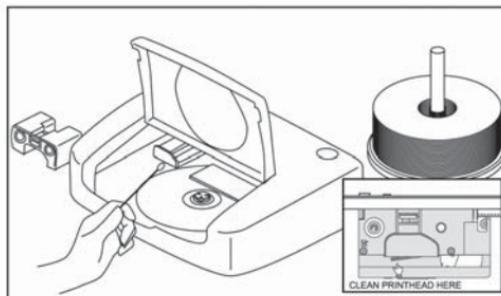

Figure 8
4. Use a cotton bud stick moistened with alcohol to clean the print head. You can also use a commercially available cassette tape recorder head cleaning kit to clean the print head. Insert the tip of the cotton bud stick and slide it lightly back and fro along the area shown in the Figure 8.